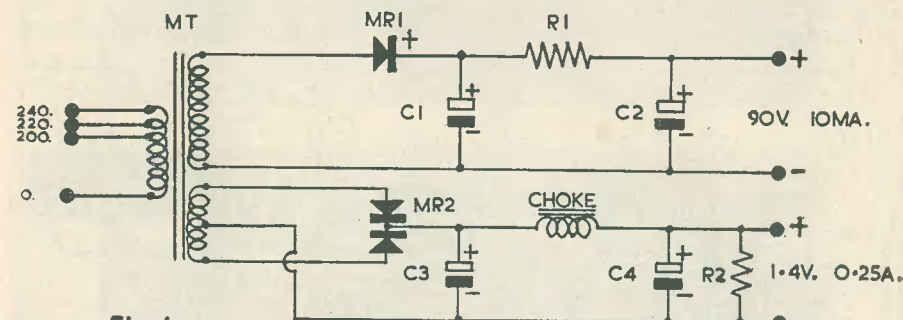

Fig. 1
Reference to Fig. 1 will show that the circuit consists of a double-wound mains transformer (MT), having primary windings at three mains voltages. The h.t. supply is rectified by a metal rectifier (MR1) with C1, C2, R1 as the smoothing components, this delivering ripple free h.t. to the output sockets. The l.t. side of the circuit is composed of MR2 as the rectifier with C3, C4, and the choke as the smoothing components. R2 tends to stabilise the voltage at the output sockets.